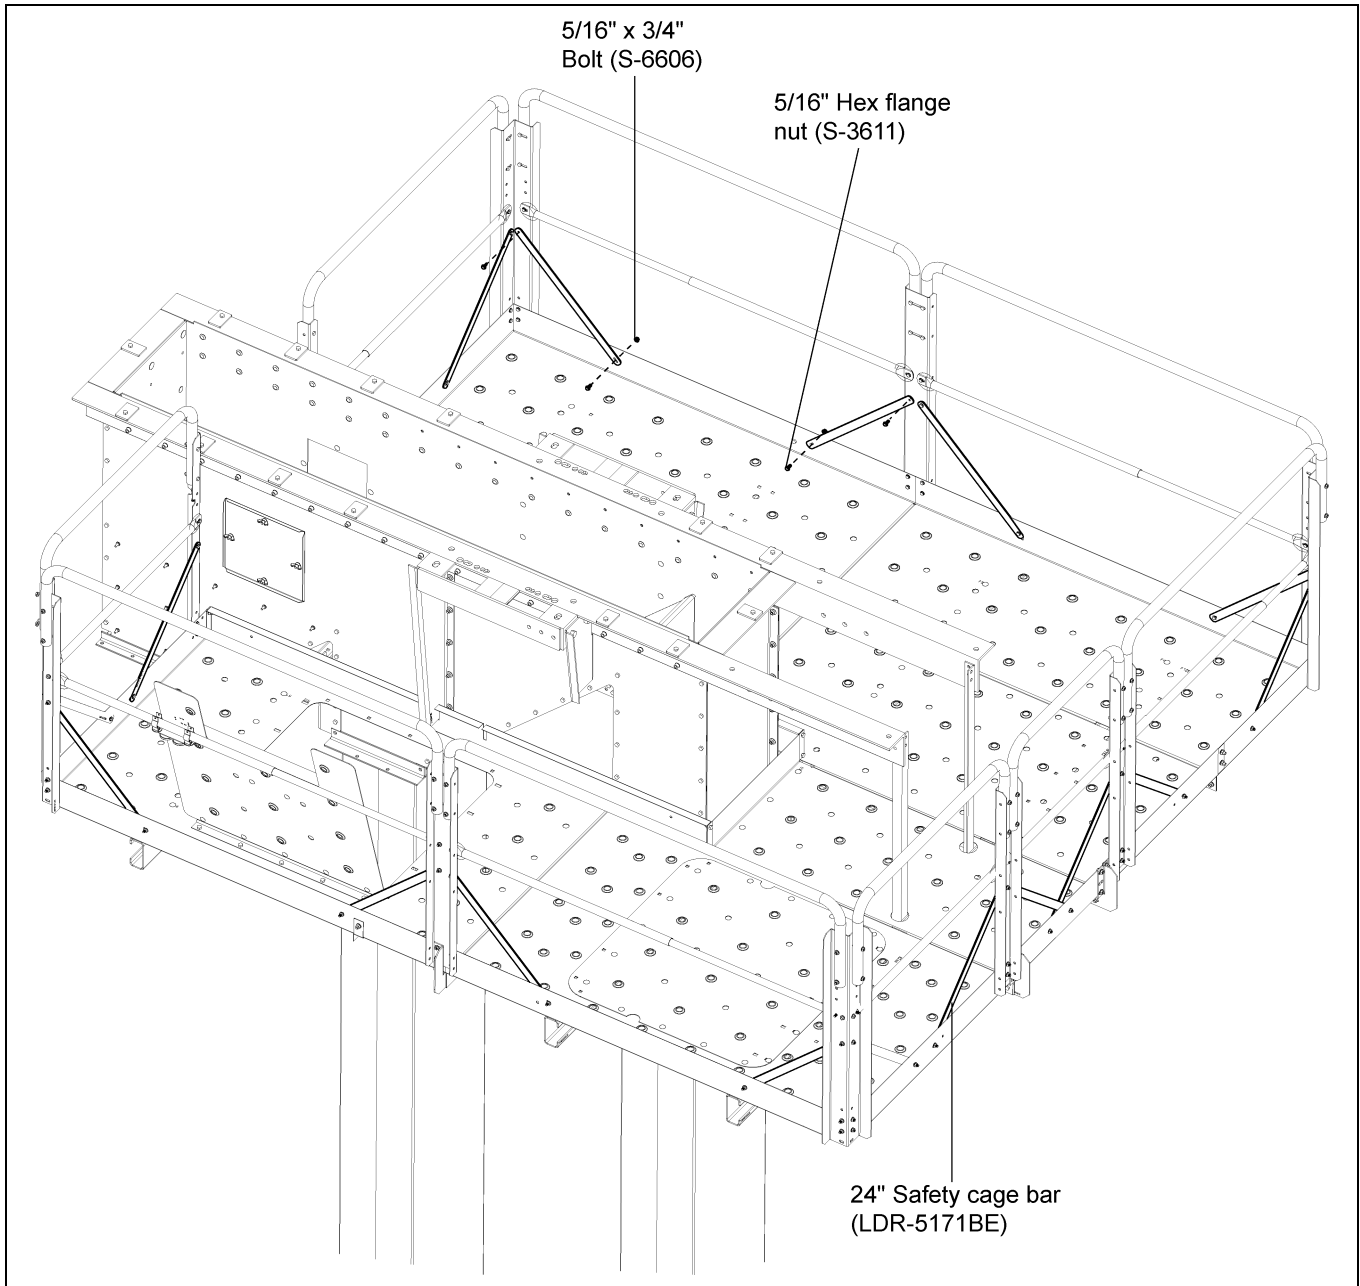

Figure 10N
1. Attach safety cage bar - 24" (LDR-5171BE) from handrail post to decking kick plates using 5/16" x 3/4" bolts and nuts. (See Figure 10N.)